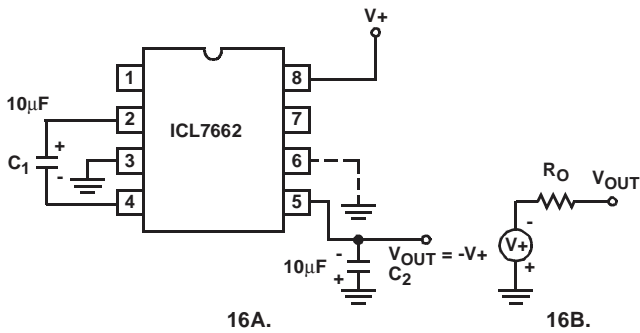

FIGURE 16. SIMPLE NEGATIVE CONVERTER AND ITS OUTPUT EQUIVALENT
The majority of applications will undoubtedly utilize the ICL7662 for generation of negative supply voltages. Figure 16 shows typical connections to provide a negative supply where a positive supply of +4.5V to 20.0V is available. Keep in mind that pin 6 (LV) is tied to the supply negative (GND) for supply voltages below 10V.
ESR also affects the ripple voltage seen at the output. The total ripple is determined by  $2V$ ,  $A$  and  $B$ , as shown in Figure 16. Segment A is the voltage drop across the ESR of  $C_2$  at the instant it goes from being charged by  $C_1$  (current flowing into  $C_2$ ) to being discharged through the load (current flowing out of  $C_2$ ). The magnitude of this current change is  $2 \times I_{OUT}$ , hence the total drop is  $2 \times I_{OUT} \times ESR_{C_2} V$ . Segment B is the voltage change across  $C_2$  during time  $t_2$ , the half of the cycle when  $C_2$  supplies current the load. The drop at B is  $I_{OUT} \times t_2 / C_2 V$ . The peak-to-peak ripple voltage is the sum of these voltage drops:
Figure 23 combines the functions shown in Figure 16 and Figure 22 to provide negative voltage conversion and positive voltage doubling simultaneously. This approach would be, for example, suitable for generating +9V and -5V from an existing +5V supply. In this instance capacitors  $C_1$  and  $C_3$  perform the pump and reservoir functions respectively for the generation of the negative voltage, while capacitors  $C_2$  and  $C_4$  are pump and reservoir respectively for the doubled positive voltage. There is a penalty in this configuration which combines both functions, however, in that the source impedances of the generated supplies will be somewhat higher due to the finite impedance of the common charge pump driver at pin 2 of the device.